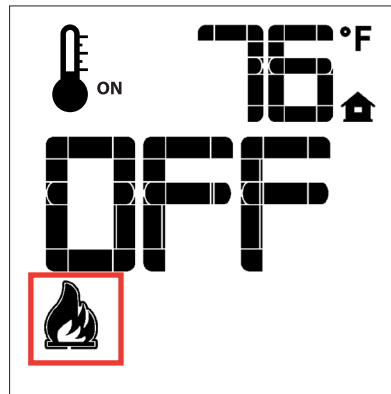

Fig. 9A: Flame Off
**Proflame GT:** with the system on, and the flame present in the appliance, pressing the Down Arrow Key (Fig. 1) will turn OFF the flame while the remote system is still on. If the Up Arrow Key is pressed while in the above described state the flame will come on. ( Fig. 9A & 9D)
The Up Arrow Key will increase the flame height each time it is pressed. If the Up Arrow Key is pressed while the system is on but the flame is off, the flame will come on in the high position. ( Fig. 9A & 9B & 9C & 9D ) A single "beep" will confirm reception of the command.